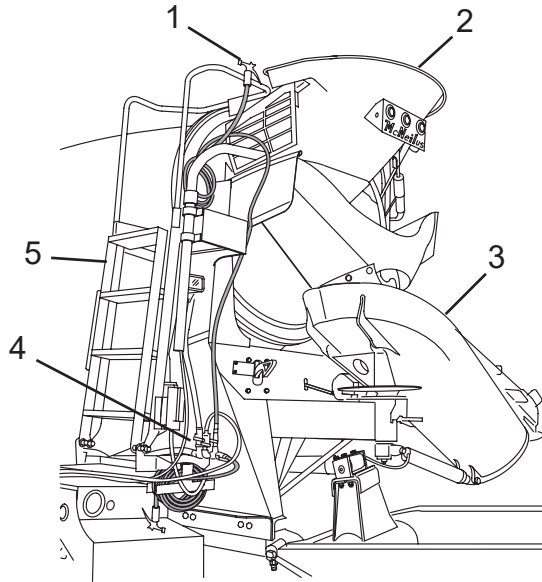

Figure 97
5. Turn on the wash-out hose valve (Figure 97, Item 4).
6. Unfold the access ladder (Figure 97, Item 5).
7. Using the wash-out hose (Figure 97, Item 1), start at the top and wash out the charge hopper (Figure 97, Item 2), the interior of the drum, the main chute (Figure 97, Item 3), and chute extensions.